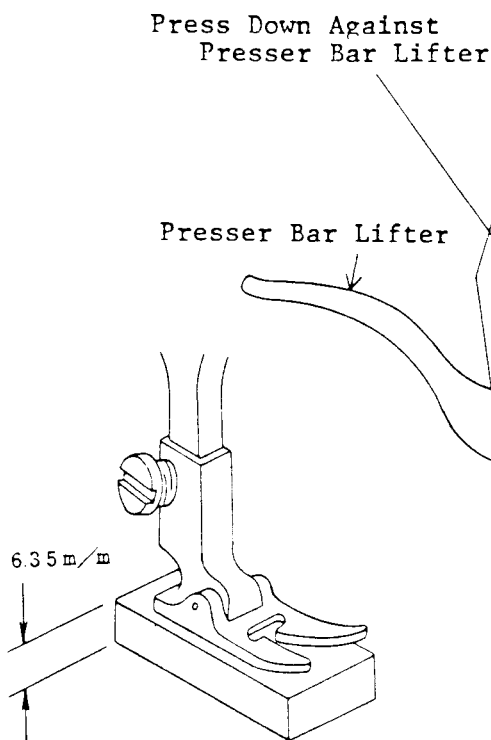

Fig. 22
1. When presser bar is in its raised position there should be a clearance of 6.35 mm between underside of presser foot and top surface of throat plate. (Fig. 22)
4. Place a block approximately 6.35 mm thick on top of throat plate, and bring presser foot down to rest firmly upon the block. (Fig. 22)